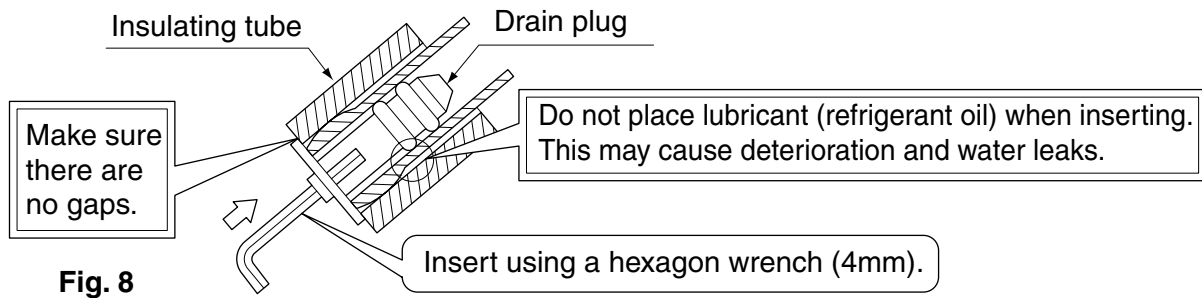

Fig. 8
- Remove the drain plug, the insulation tubing, and the drain hose from the drain pan and replace. (Refer to Fig. 8)
- Connect the local refrigerant piping ahead of time, matching it to the liquid pipe and gas pipe marks engraved on the installation panel (1).